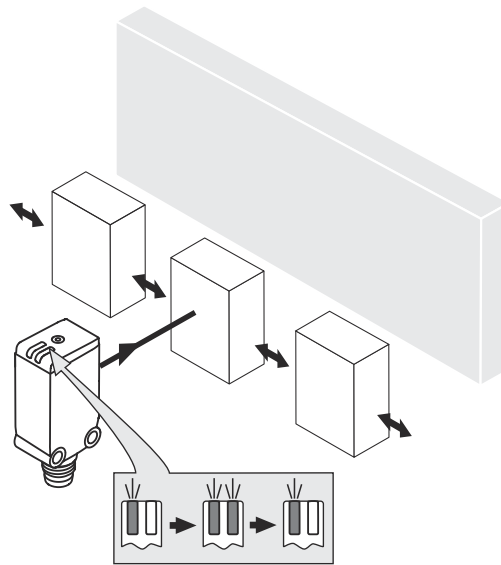

Figure 5: Standard direction
4. Note the preferred direction of the object relative to the sensor. see figure 5, page 28